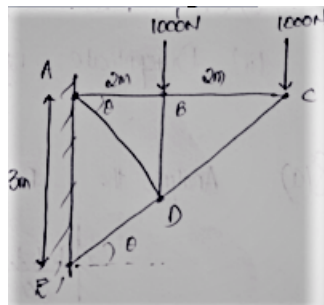

Figure 3
- (b) Determine the forces in all the members of a cantilever truss shown in figure 3. [7M]